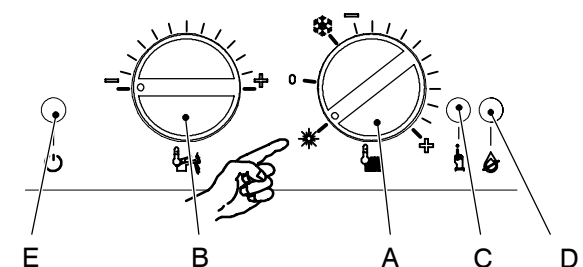

Fig. 16
- 4 Turn the boiler ON positioning the function selector knob A as indicated in Fig. 16 and ensure that the timer selector switch and room thermostat, if fitted, are set to "heat demand".